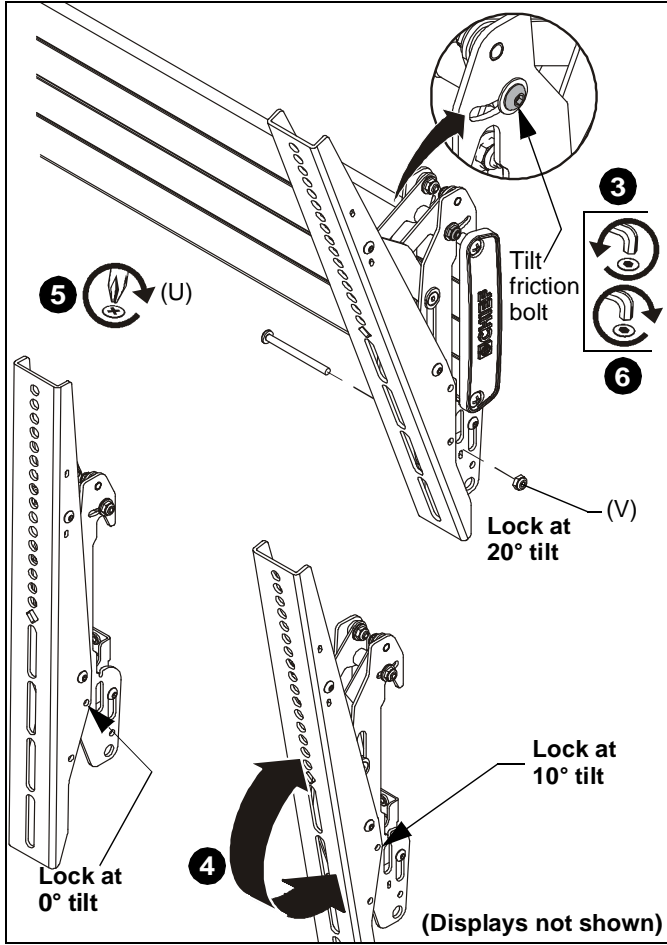

Figure 17
3. If necessary, loosen buttonhead tilt friction bolt (located on side of interface bracket). (See Figure 17)
4. Adjust tilt as required. (See Figure 17)
5. The tilt may be locked at 0°, 10° and 20° using one 10-24 x 2-1/4" Phillips head screw (U) and one 10-24 lock nut (V) per interface bracket. (See Figure 17)